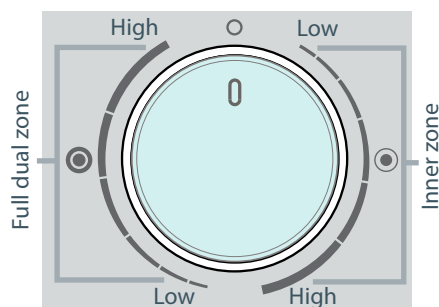

Fig.9 Dual cooking zone control (some models only)
- When using dual cooking zones, you may choose to use the inner zone only (●) or the full dual cooking zone (⊙). See Fig. 9 below.